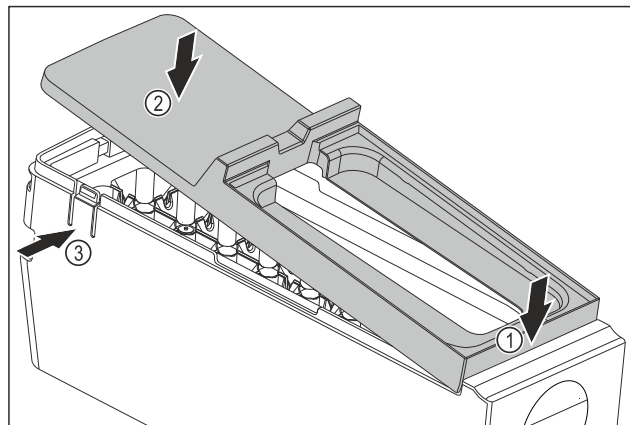

Fig. 147
- Installing the EasyTwist-Ice body cover: Place the cover on the front. Fig. 147 (1)
- Lower the cover at the rear. Fig. 147 (2)
- The cover locks into both tabs Fig. 147 (3) audibly.